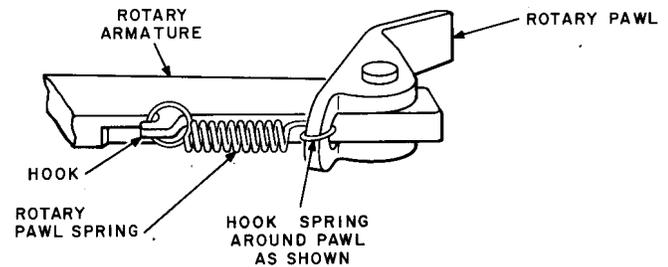

Fig. 21—Method of Attaching Pawl Spring to Rotary Armature Pawl
(1) To replace the rotary pawl spring, unhook the rotary pawl spring from the hook pin on the armature and also from the pawl using the 6-inch tweezers. Hook the open end of the new spring around the pawl, and place the looped end over the hook or pin as shown in Fig. 21.
(2) The tension of the spring after it has been placed in this position should be sufficient to hold the pawl in its extreme forward position.